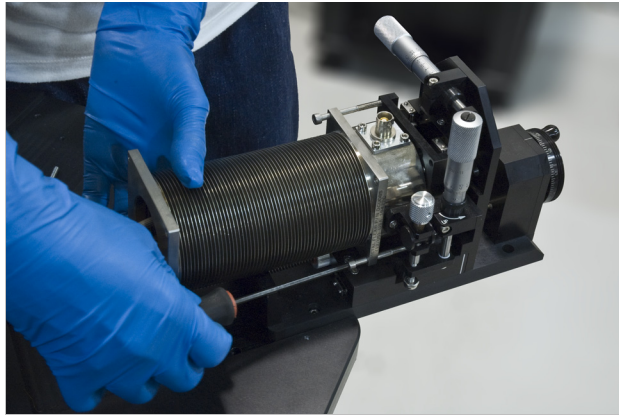

FIGURE 5-24 Loosening the four M4 horizontal screws
2. Using the 3 mm hex driver, loosen the four long M4 horizontal screws that attach the bellows to the z-axis stage, so the probe arm base can rotate (FIGURE 5-24). Loosen them two to three rotations; do not remove them.